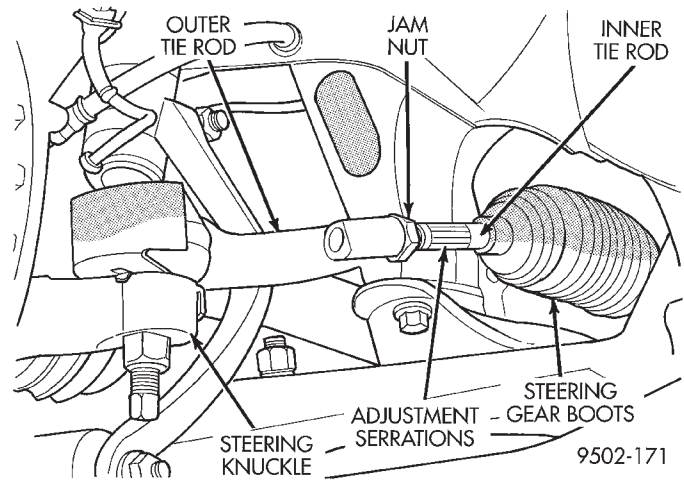

Fig. 4 Inner To Outer Tie Rod Jam Nut
(7) Loosen front inner to outer tie rod end jam nuts (Fig. 4). Grasp inner tie rods at serrations (Fig. 4) and rotate inner tie rods of steering gear to set front Toe to the preferred Toe specification. See Alignment Specifications in this group of the service manual for preferred specification
- (8) Tighten tie rod locknuts (Fig. 4) to 61 N·m (45 ft. lbs.) torque.
- (9) Adjust steering gear to tie rod boots (Fig. 4) at inner tie rod.
- (10) Remove steering wheel clamp.